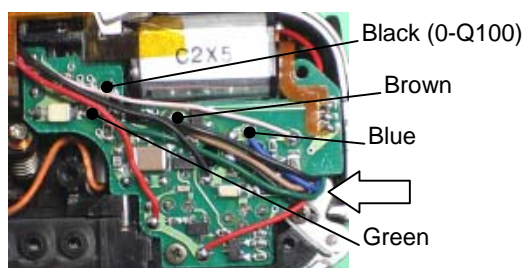

Fig.10
- The lead wires on the flash PCB should be arranged in good order to prevent pinch by the motor or electronic parts as shown in Fig.10.